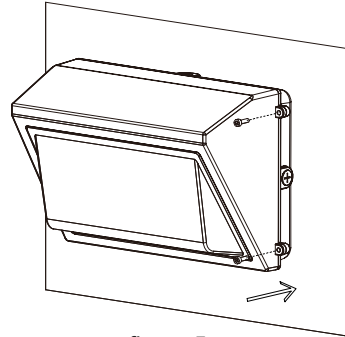

figure 5
Step 5 Make sure all wiring access holes are sealed properly for waterproofing purposes. (figure 5)